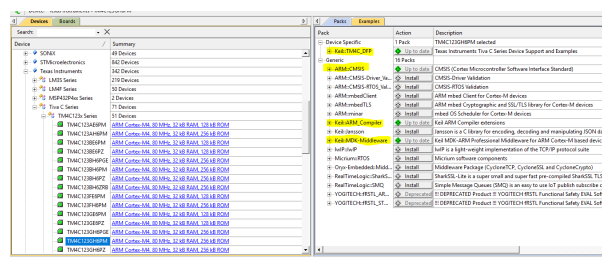

Figure 7: Packs to be installed are emphasized by yellow
- Under *Devices* tab, seek for the TM4C123GH6PM: All Devices > Texas Instruments > Tiva C Series > TM4C123x Series > TM4C123GH6PM (Figure 7)
- Install the following packs under the *Packs* tab: *Keil :: TM4C_DFP*, *ARM :: CMSIS*, *Keil :: ARM_Compiler*, *Keil :: MDK – Middleware* (Figure 7)